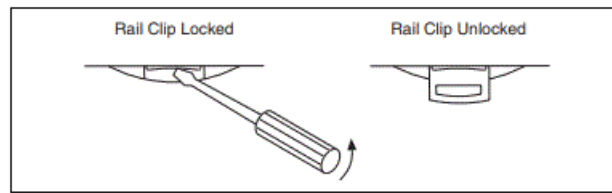

Figure 5. DIN Rail Clip
1. Use a flathead screwdriver to open the DIN rail clip to the unlocked position, as shown in Figure 5.
3. Slide the FBUS-HSE/H1 LD to the desired position along the DIN rail. After the FBUS-HSE/H1 LD is in position, lock it to the DIN rail by pushing the rail clip to the locked position, as shown in Figure 5.